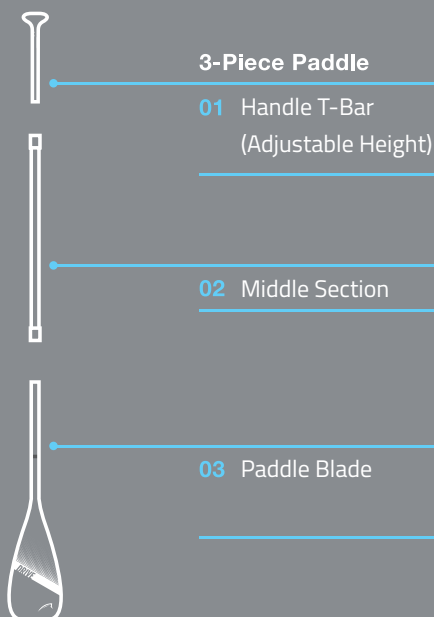

Figure 2.
- Use the paddle in the correct orientation with the Bluefin branding at the front of the paddle shaft. **Figure 2**